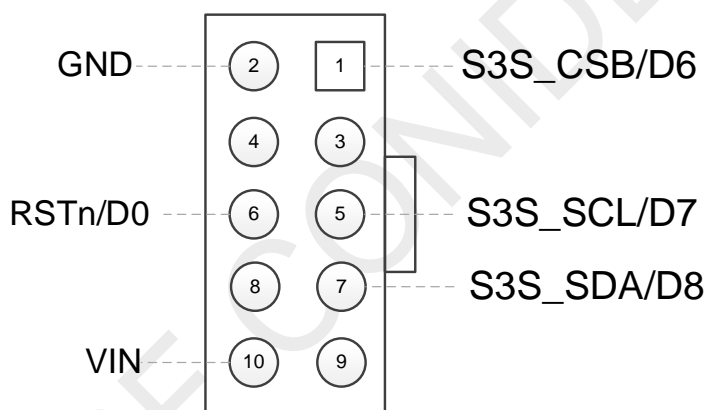

Figure 3-3. CMT218xA 10-pin Horn Burning Arrangement
2. The corresponding relationship between the S3S burning interface and the RSTn/D0 pin as well as the 10-pin horn arrangement is shown in Figure 3-3 below.